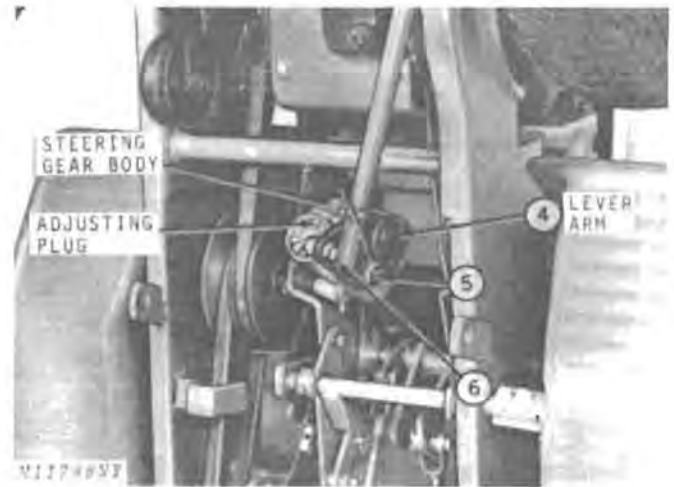

Fig. 17-Steering Gear Adjustment
4. Turn lever arm until the arm is parallel with steering gear body, Fig. 17.